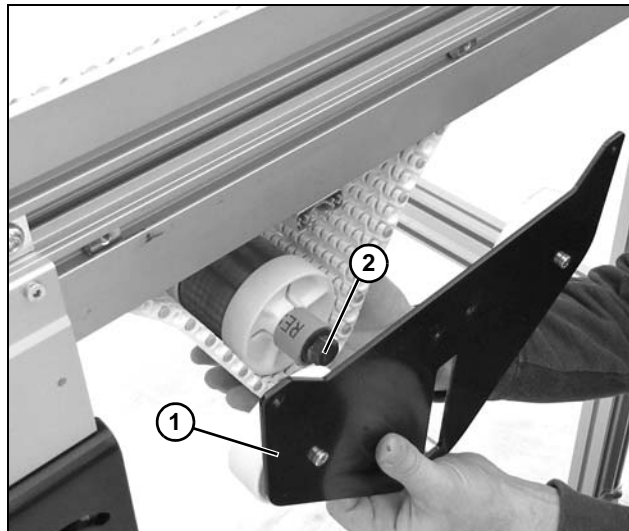

Figure 103
3. While holding belt from underneath, remove weighted take-up plate assembly (**Figure 103, item 1**) from weighted pulley assembly (**Figure 103, item 2**).